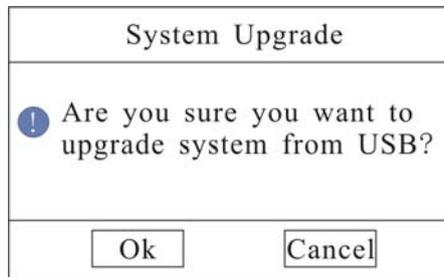

Fig. 64
(2) Enter “Main Menu—Advanced—Maintenance—USB Upgrade” as shown in Fig.64.